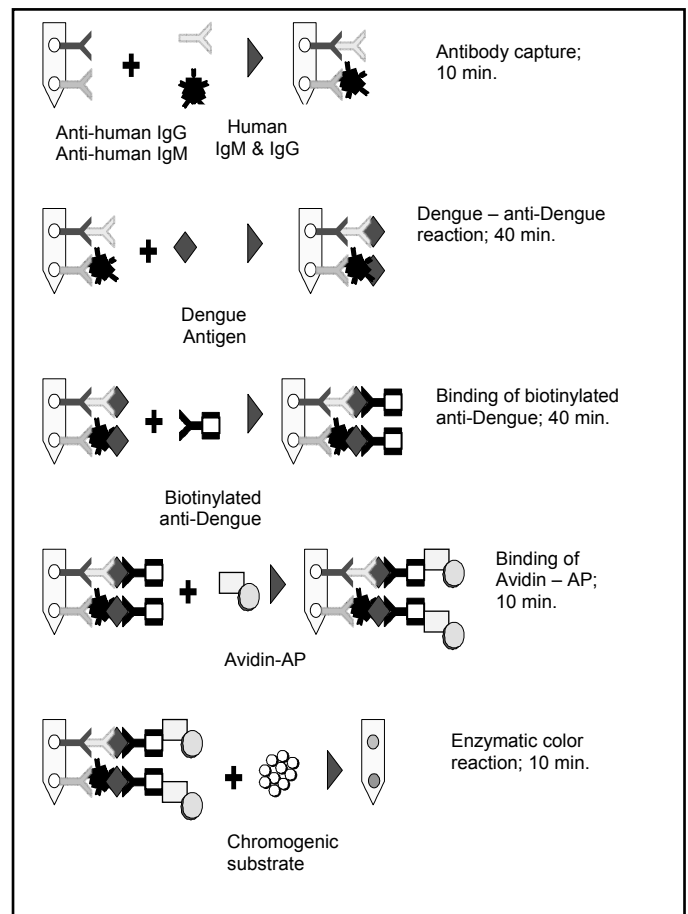

Figure 1. Principle of the Test
At the outset of the test, serum or plasma specimens are added to the diluent in the wells of row A of the Developing Plate. The Card is then inserted in the wells of row A. Human IgM and IgG will be captured, respectively, by the anti-IgM and by the anti-IgG antibodies on the lower and middle spots on the teeth of the Card (Figure 1). In row B, anti-Dengue IgM and IgG captured on the lower and middle spots of the teeth will react with Dengue antigens. In row C, Dengue antigens captured on the teeth, will react with biotinylated anti-Dengue antibodies. In row D the biotinylated antigen/antibody complex on the lower and middle spots of the teeth, and biotinylated bovine serum albumin on the upper spots (Internal Control), will react with streptavidin labeled with alkaline phosphatase (AP). In row E unbound components are removed by washing. In row F, the bound alkaline phosphatase will react with chromogenic components. The results are visible as gray-blue spots on the surface of the teeth of the Card.